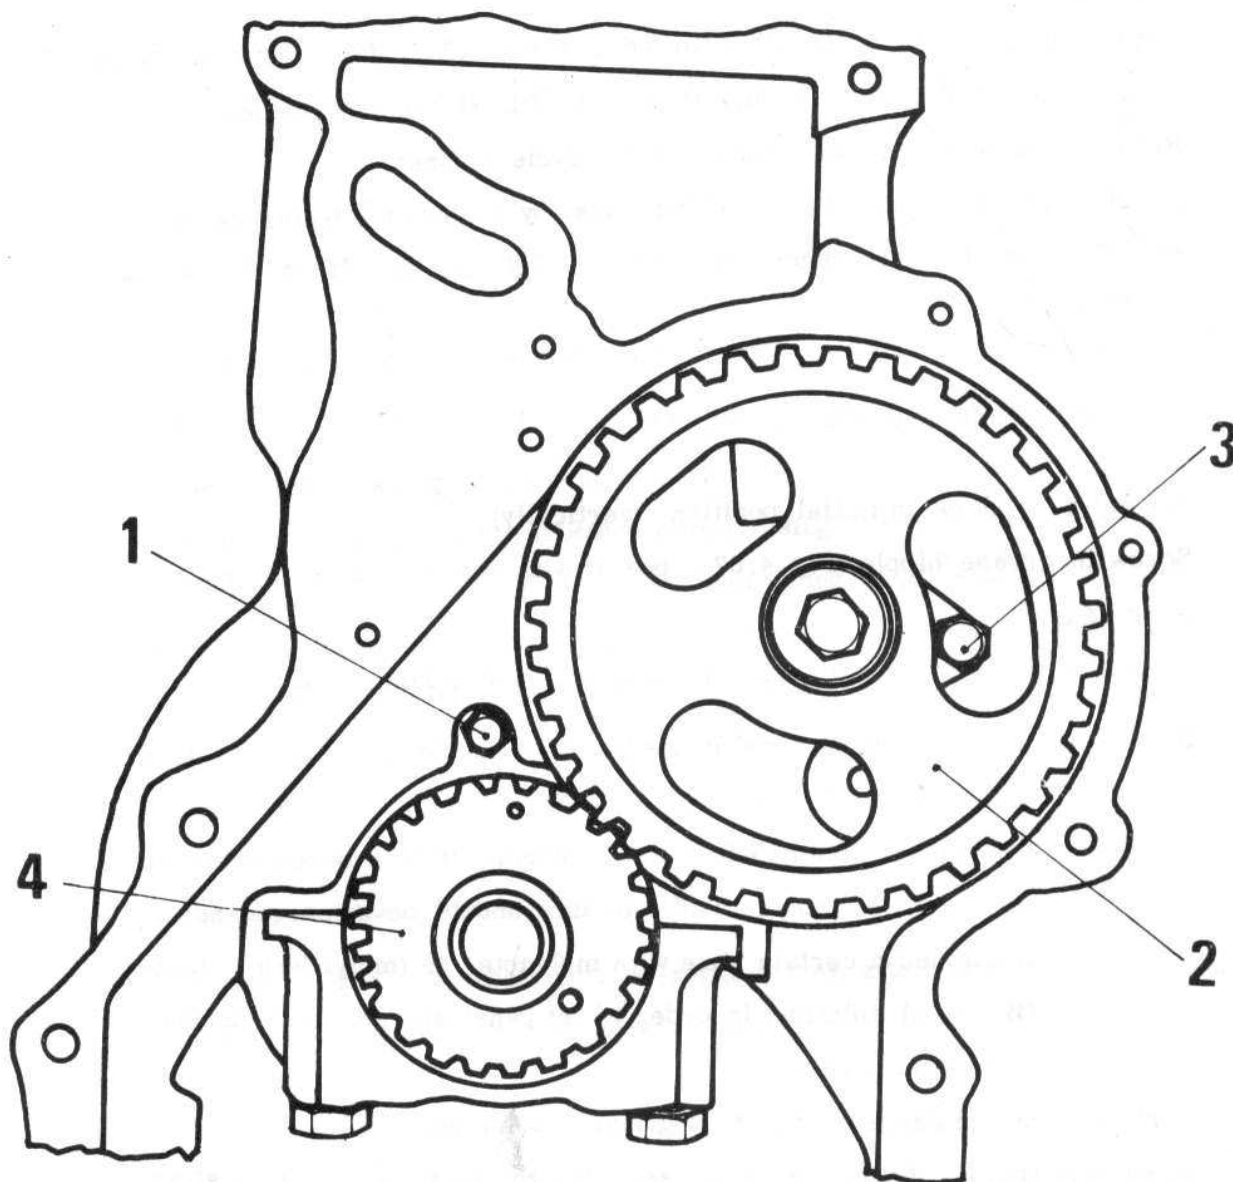

Fig. 4.67. REFITTING THE CAMSHAFT DRIVE GEAR
- Screw in grease nipple (Fig. 4.67 - pos. 1) with outlet towards distribution gear (2).